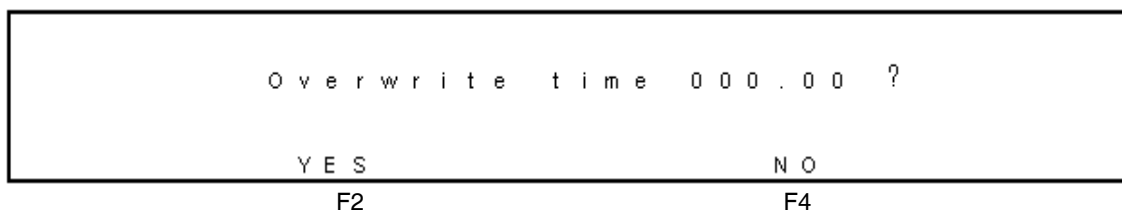

Figure 3-51 Overwrite Time Screen
- c. Select **F2 ADD**. The Overwrite Time screen appears (Figure 3-51).